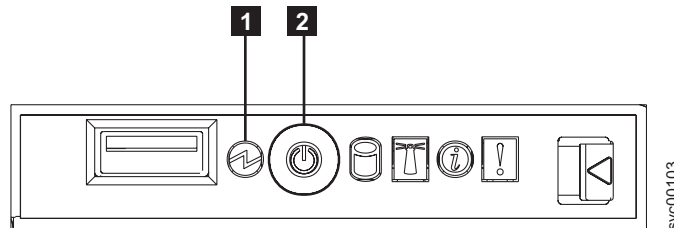
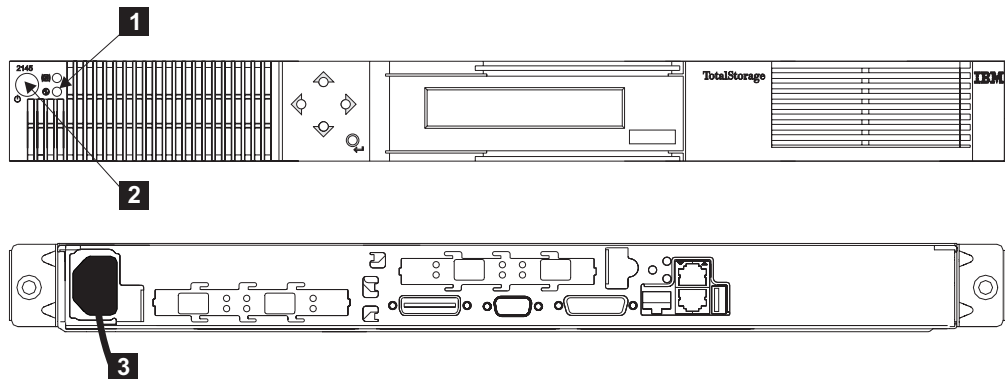

Figure 110. SAN Volume Controller 2145-8F2 operator information panel
Figure 111. Front and back panel views of the SAN Volume Controller 2145-4F2
1. Check the SAN Volume Controller 2145-8F2 power LED **1** (Figure 110) or the SAN Volume Controller 2145-4F2 power light **1** (Figure 111). If the light is on, go to step 2. If the light is either off or flashing, power has already been removed from the SAN Volume Controller. Go to step 4 on page 283.